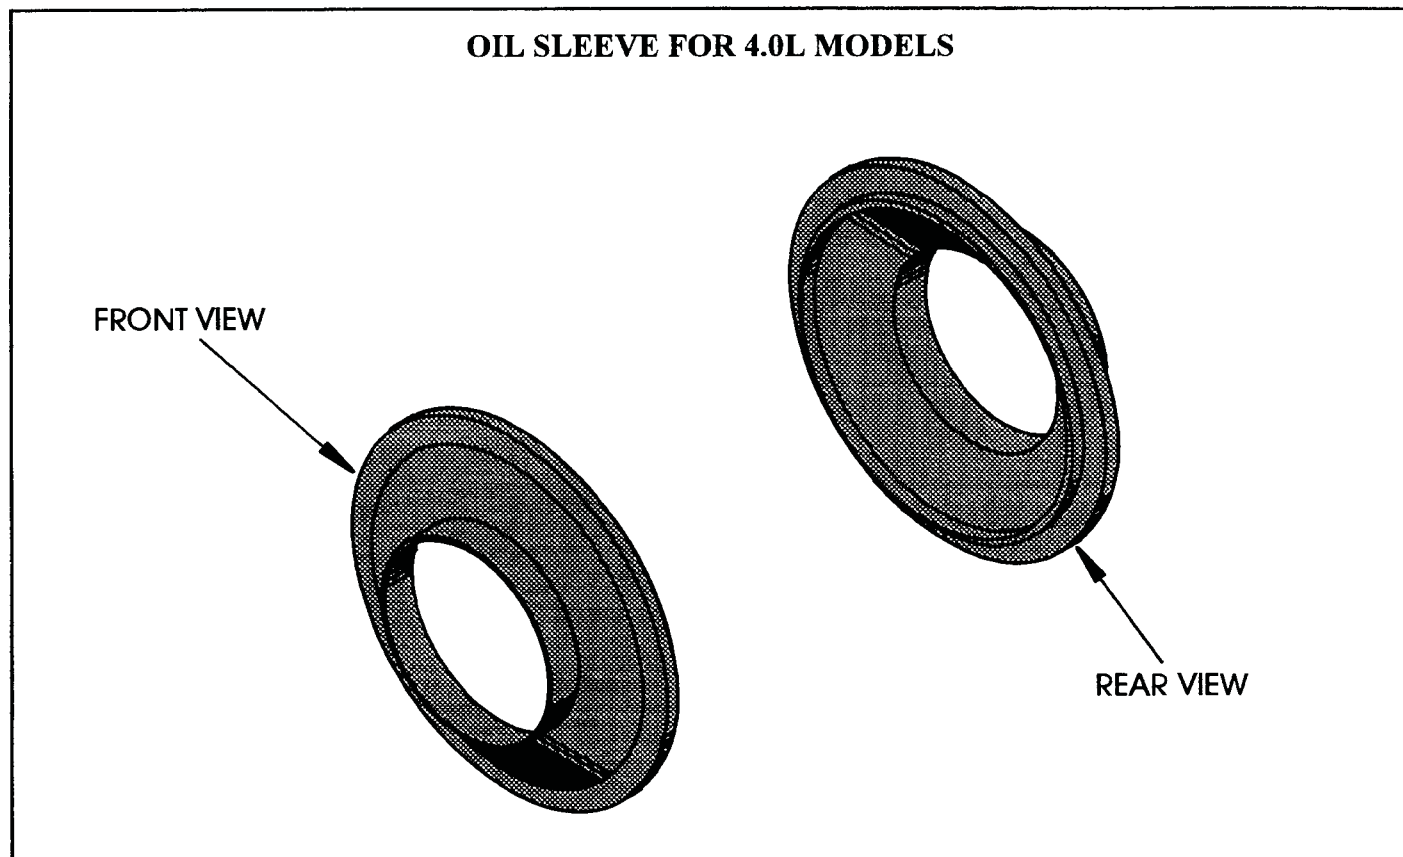
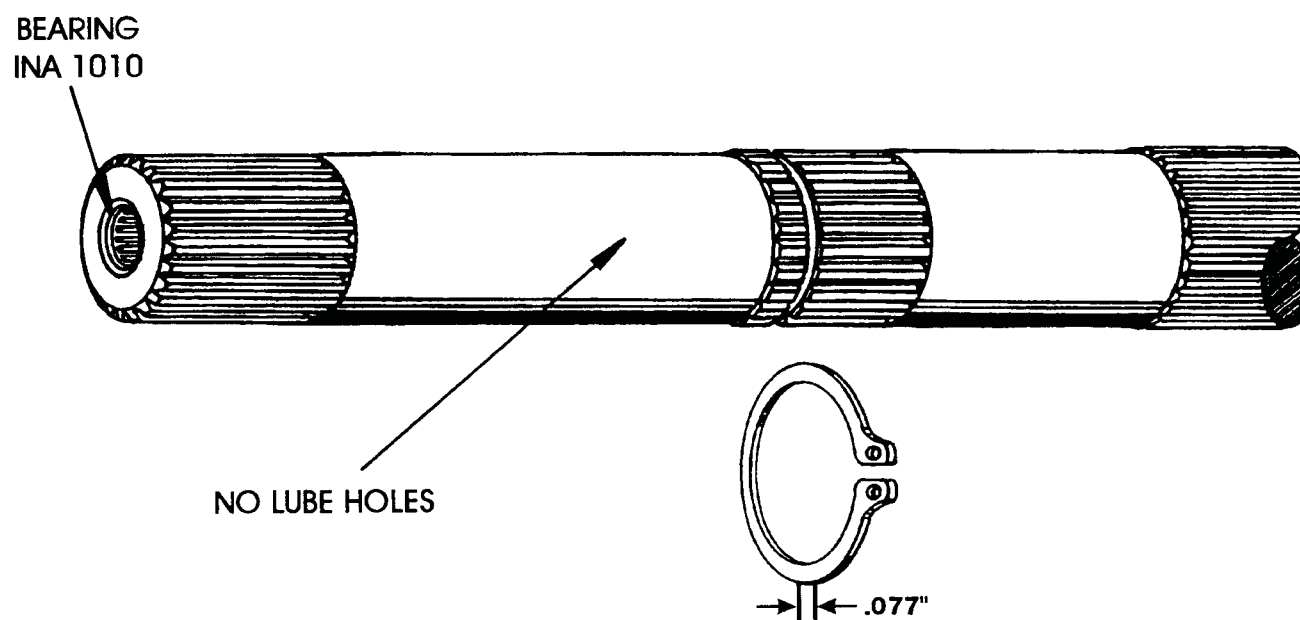

Figure 44
Figure 48
- (7) OIL SLEEVE - An added oil delivery sleeve, or lubrication guide, was added to the output shaft rear ring gear hub to direct lube oil from the added grooves in the hub, through the sun gear to the front planetary gear set (See Figures 44 and 47).
- (8) OUTPUT SHAFT - The Output Shaft was revised in three areas:
- The front output shaft bushing was replaced with a caged needle bearing (See Figure 48).
- The output shaft snap ring groove was machined approximately .030" wider to make room for a revised thickness snap ring (See Figure 48). The new snap ring thickness is .077", as shown in Figure 48.
- The lube holes in the 1st design output shaft were eliminated entirely, to accommodate the revisions in the lube circuit on the 4.0L engine models (See Figure 48).
- (9) OUTPUT SHAFT SNAP RING - The snap ring that retains the rear ring gear and hub onto the output shaft on 4.0L models was increased in thickness, and now measures .077" thick. On all other applications the snap ring measures .046" thick (See Figure 48).